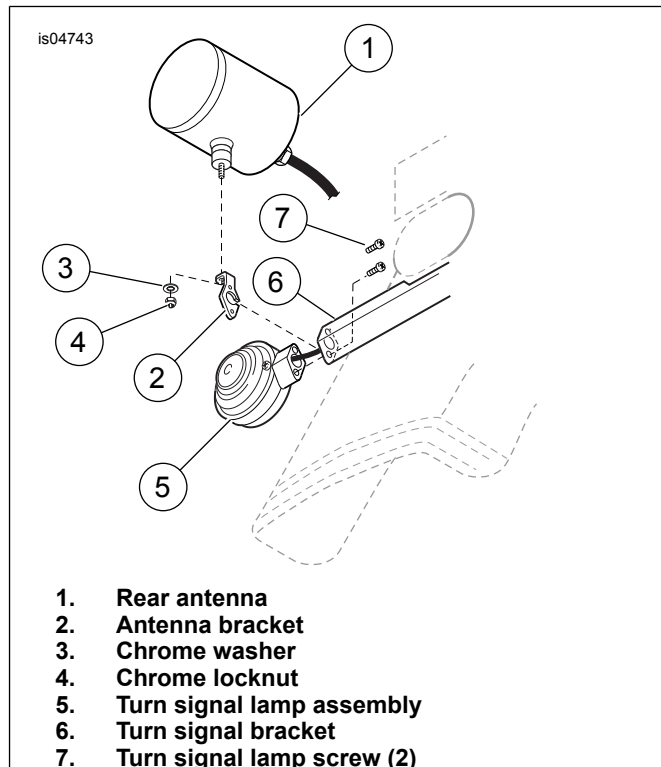

Figure 8. Rear Antenna Bracket - FLHP, FLHTP
2. See Figure 8. Remove the two screws (7) to release the turn signal lamp assembly (5) from the turn signal bracket (6).